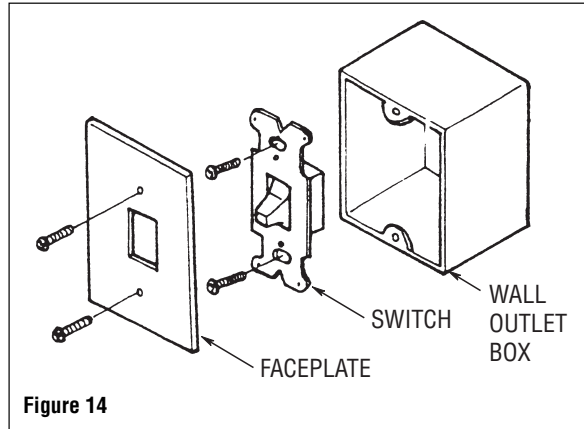
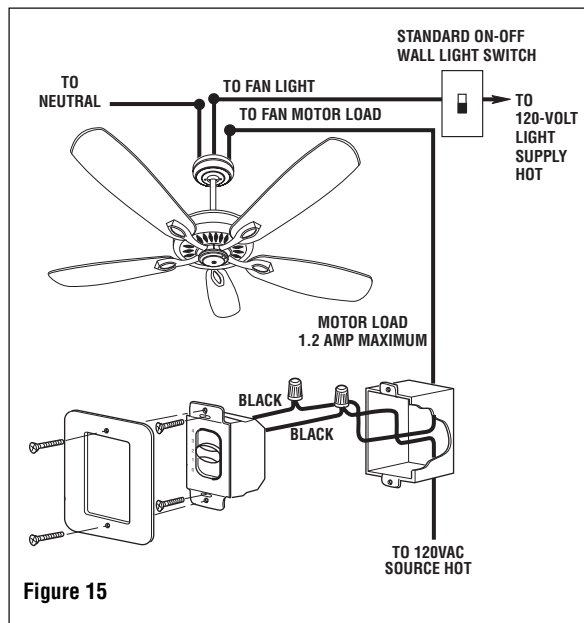

Figure 14
Figure 15
3. Disconnect wire from existing fan wall switch (Figure 14).
4. Slide the fan control in the OFF position (0).
5. Connect one BLACK wire from the fan speed control to the fan/motor lead with a wire connector (provided). (Figure 15.)